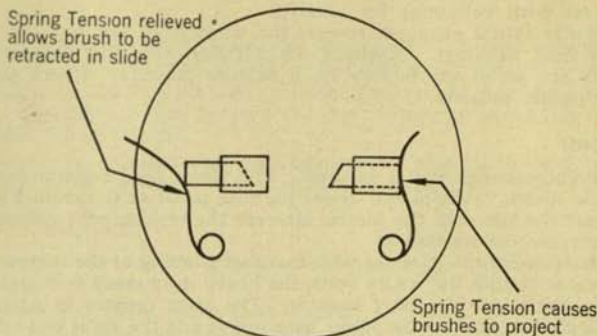

Figure 15. Replacing generator brushes
1. Be sure the brushes are removed from their slides or that the spring tension is relieved by placing a spring hook or rubber band beneath the brush tension spring. See that the brushes are pushed back in their slides; otherwise, the commutator will jam against the brushes and damage them (Figure 15).